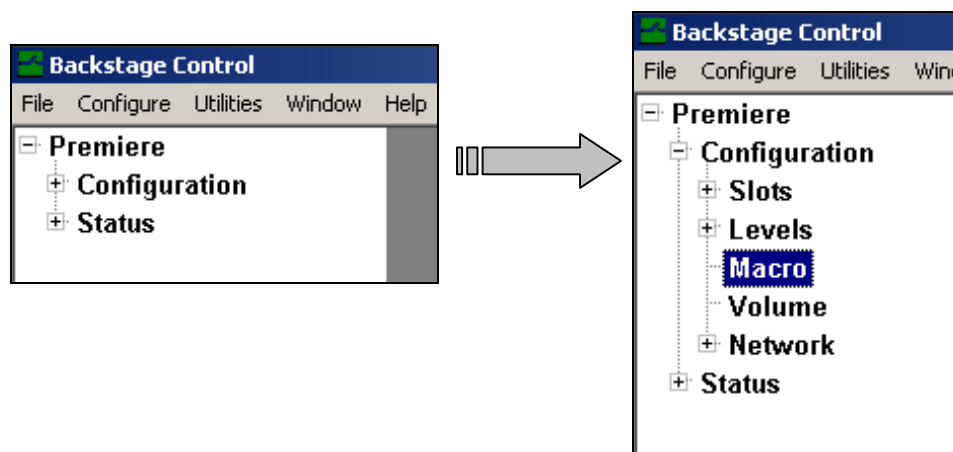

FIGURE 94: Accessing the Macro Directory
- 1) In the tree window, access the **Macro** directory by expanding the **Premiere** and **Configuration** root directories by clicking on the x-box (☒) adjacent to each directory (see Figure 94).